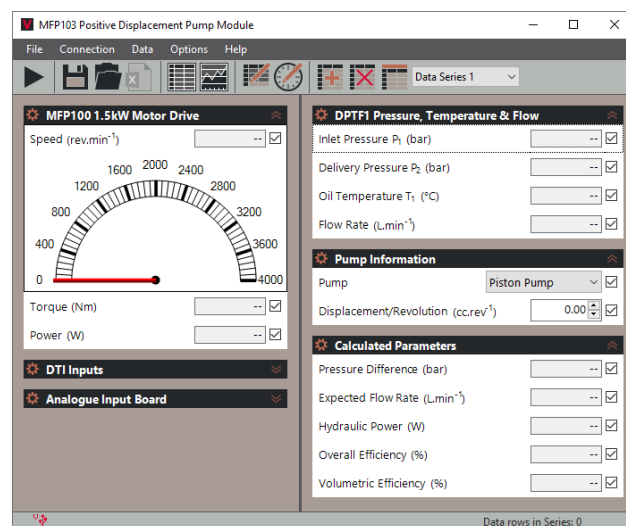

Figure 14 Sample VDAS[®] e-lab Screen
2. The VDAS[®] e-lab screen for the selected application will be displayed (Figure 14).